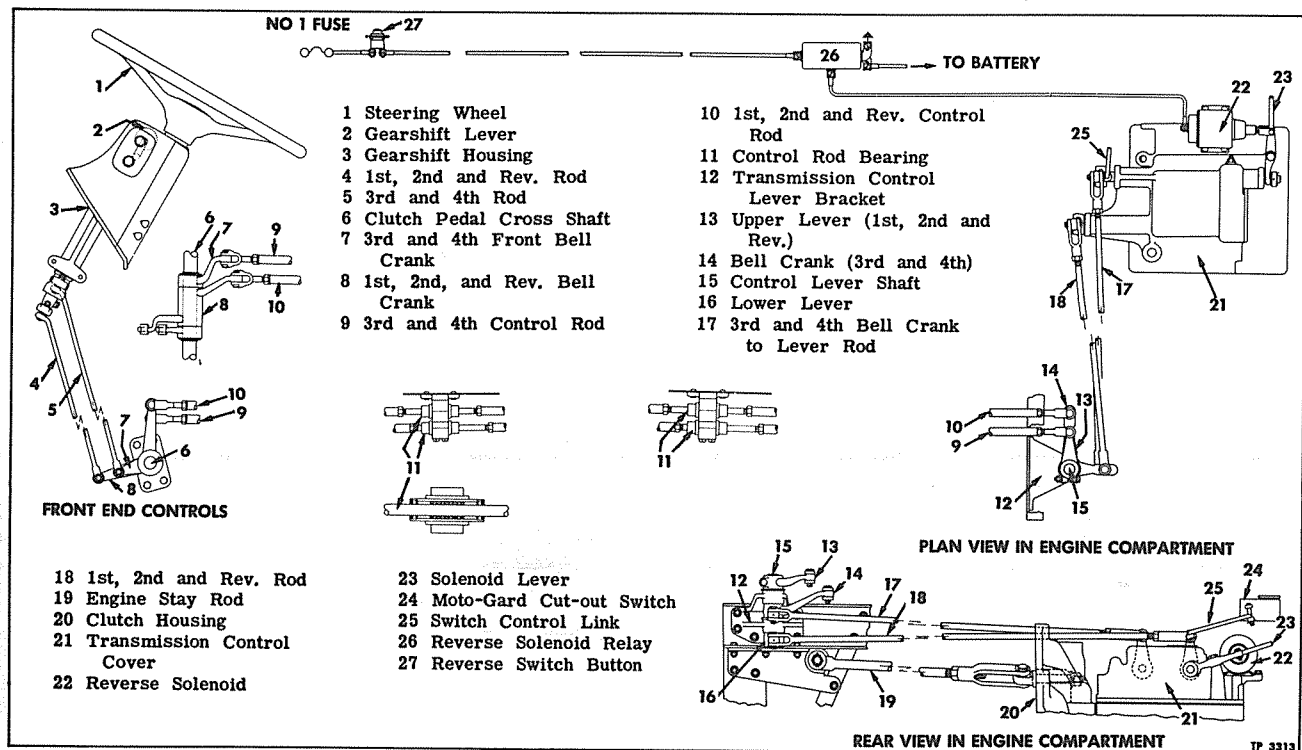

Figure 5—Transmission Controls and Linkage
Gearshift lever is located just below steering wheel at right-hand side of steering column. Mechanical linkage consisting of levers, shaft rods and bell cranks (fig. 5) transmit movement of gearshift lever to mechanism at transmission control cover.
Forward speeds are shifted manually by means of shift lever interconnected to transmission shift tower by control rods and levers (fig. 5).
Reverse speed is shifted manually using same controls as forward speeds, but is assisted by a solenoid mounted on transmission shift cover and controlled by a button mounted on coach body at left of driver (fig. 5).
2. Adjust yokes on rods (17 and 18, fig. 5) so that clevis pins can be inserted without moving rods or levers from neutral position. Make certain
5. Connect engine stay bar (19, fig. 5) at clutch housing, then remove engine dolly. Connect clutch, hand brake, and transmission control rods to levers at transmission. Moto-Gard cut-out switch (24, fig. 5) must be connected to special clevis pin which holds 1st, 2nd, and reverse rod to lever on transmission.